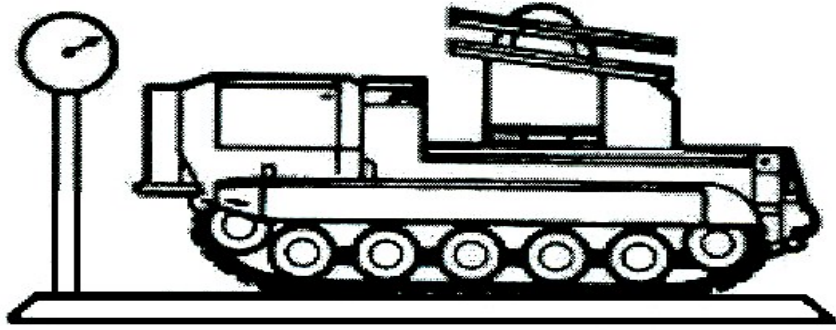

Figure 3-136
- 7. Direct personnel to determine the weight of a tracked vehicle using prescribed procedures (see Figure 3-136).